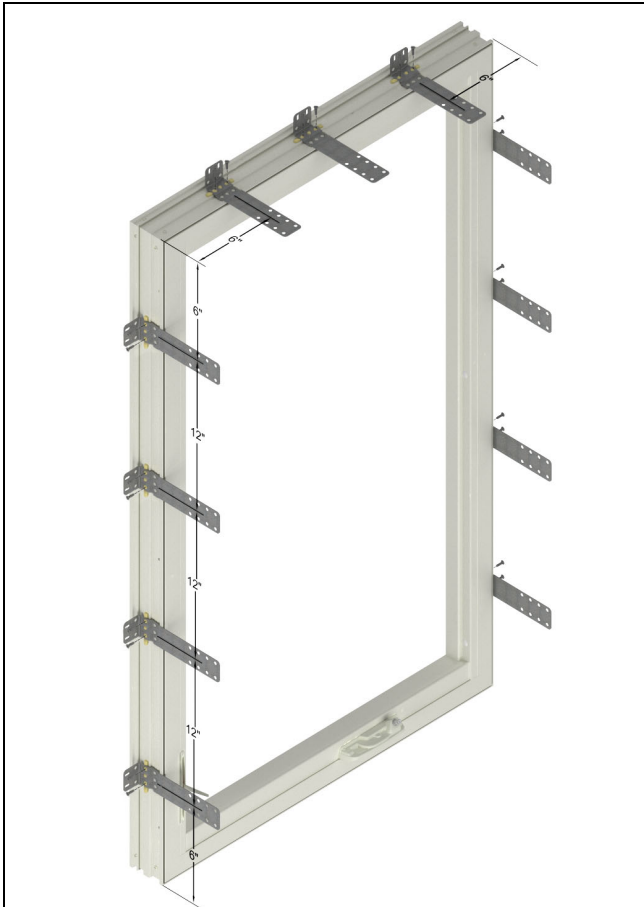
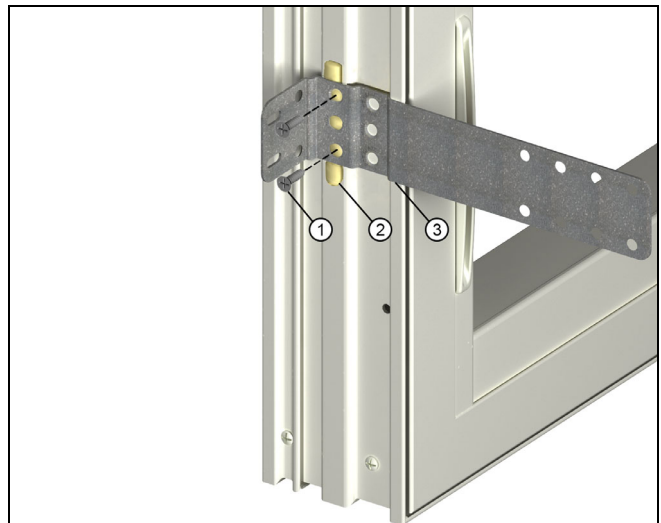
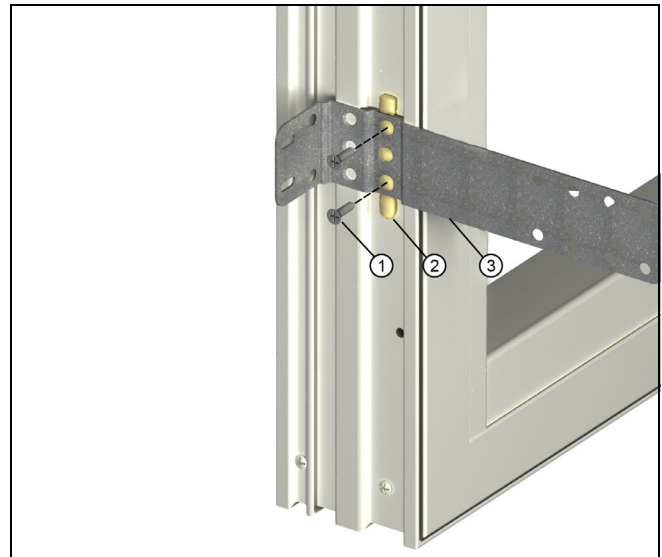

Figure 7
Figure 8 All product except Direct Glaze
Figure 9 Direct Glaze
4. If you are installing a window with structural brackets apply a 3/16" (5) diameter 1 1/2" (38) long bead of heavy duty construction adhesive in the exterior jamb channel. The adhesive is to be placed 6" (152) in from each corner and spaced 12" (305) apart along the head jamb and jambs of the unit. Press the 90° bent structural brackets firmly into place over the adhesive and secure with the two provided screws in the structural bracket kit. See Figure 7, Figure 8 and Figure 9.